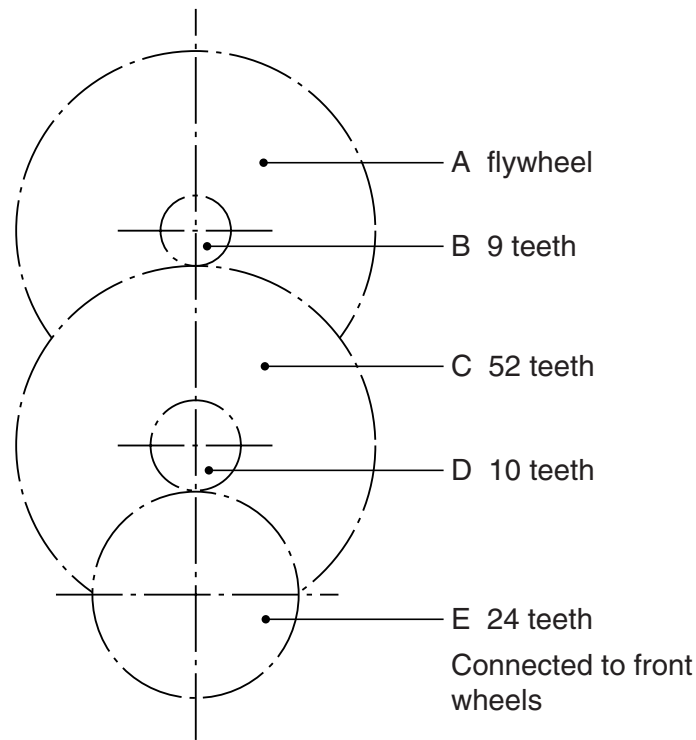

Fig. 3
- 6 Fig. 3 shows the arrangement of gear wheels in a child's toy.